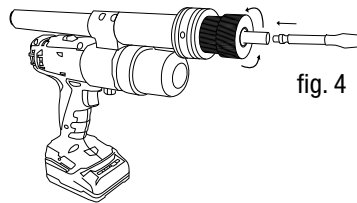

fig. 4
Screw the header onto the Pipe Flaring Machine BST 32 PLUS, then insert the extractor (H) until it clicks into place (fig. 4).